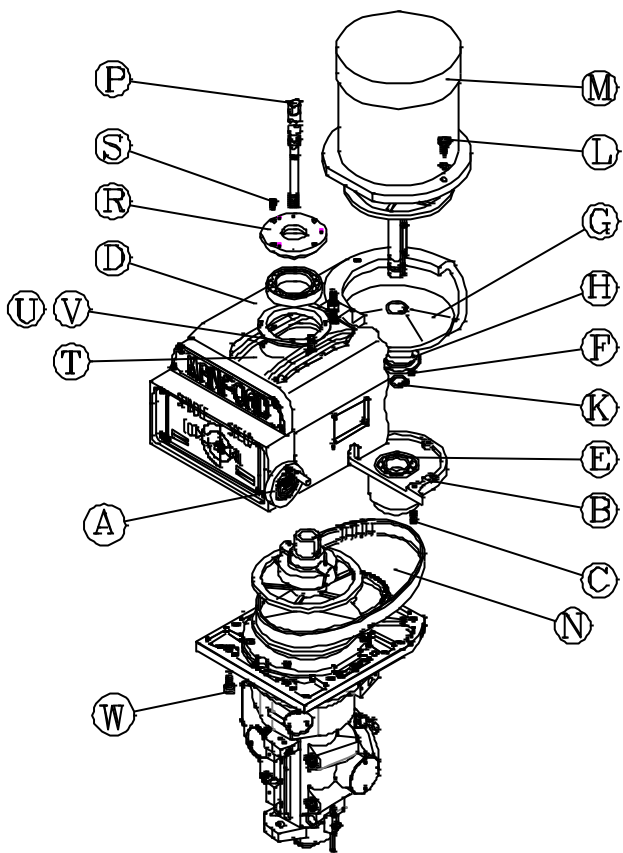

Fig. 7-1
7.2 Motor Speed Belt Replacement (Variable speed head) (Fig. 7-1)
2. Shut off the power. (for variable speed head please see Fig. 7-1) °
3. Take the cone shank handle (A) out.
4. Take down three bolts and washer (B) at the gear box bottom.
5. Take the pulley box set (F) out.
6. Move the quill (C) to the highest point. Take out two bolts (G) at the top of the quill
7. Support the quill (C) with left hand loosen the lock handle (E) and turn the quill handle (D) counterclockwise slowly to lower the quill (C) until it leaves the quill rack . Then turn the rack handle (D) clockwise slowly to origin.
8. Support the quill (C) with both hands, move it down slowly until leave the head .
10. While restoring , support the quill (C) vertically and insert it into the head (U) .
11. Insert the quill (C) into the head (U) until touch the gear of the quill handle , and then lower it about 10mm. Turn the quill handle (D) counterclockwise about 2.5 turns , and then push the quill (C) up to top. Finally , loosen the handle (D) clockwise slowly.
- PS: If the rebound force was too small , turn the handle (D) much than 2.5 turns . If it was too large , turn the handle less than 2.5 turns.